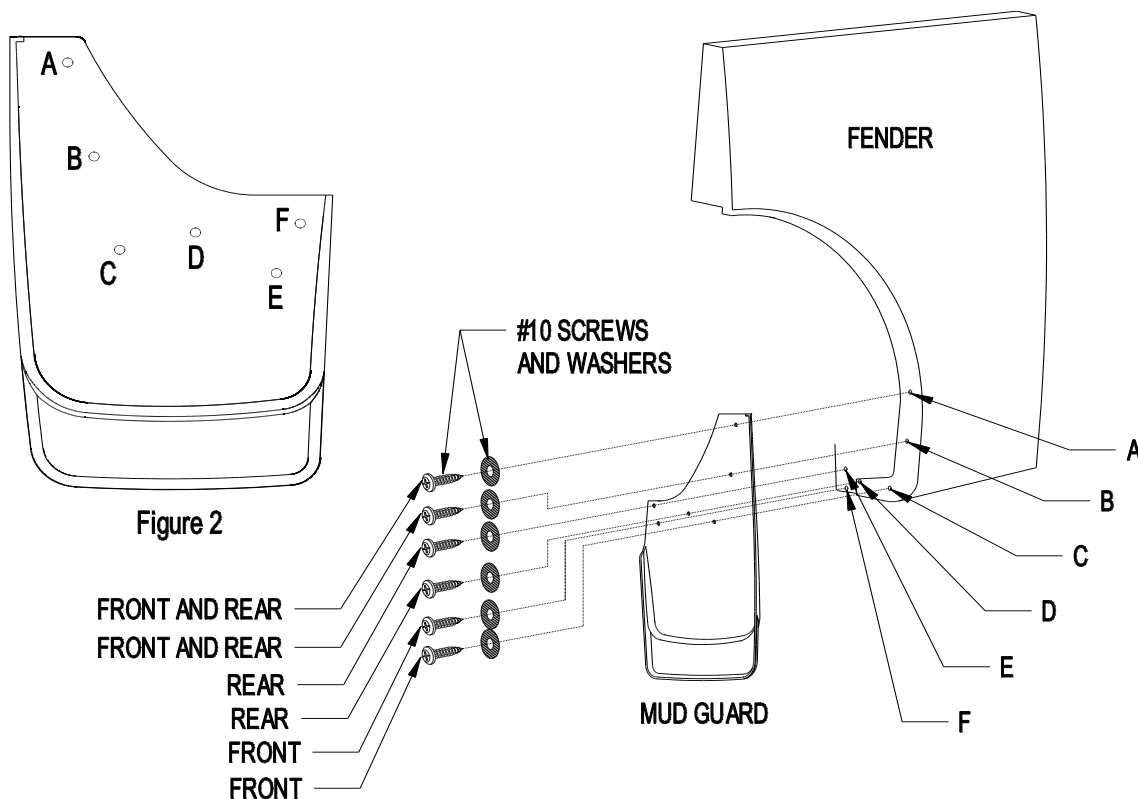

Figure 1
2. Place mud guard against fender, make sure the guard placement provides good tire coverage, is level to the ground and that no mud guard holes are showing below the bottom of the fender. Using the mud guard as a template mark, center punch and drill an 1/8th hole at location A and attach guard with a number #10 screw and washer. Make sure the mud guard hangs straight and is covering the tire before tightening screw (Figure 1).